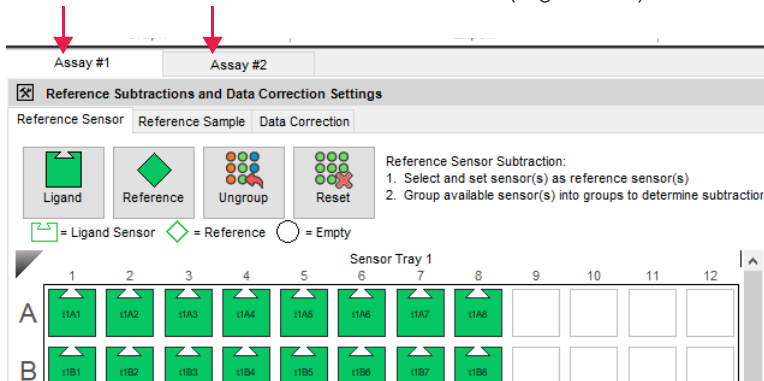
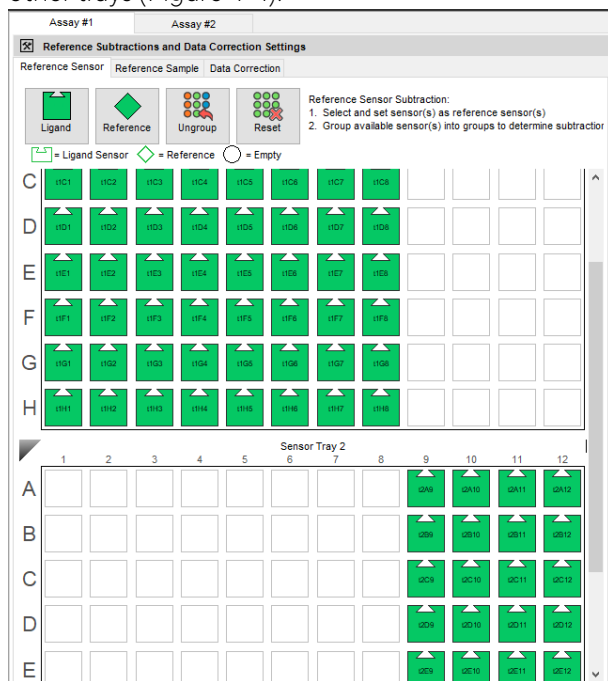

Figure 4-3: Assay Tabs
Figure 4-4: Scrolling Between Biosensor Trays
To view data for different assays in the experiment or combined data set, click the **Assay** tab above the Reference Subtractions and Data Corrections window (Figure 4-3).
If you used more than one tray of biosensors in the experiment or combined dataset, use the scrollbar to see the other trays (Figure 4-4).
- Biosensors are identified by their tray and well number. For example t1A3 is the biosensor in well A3 on tray 1, t2H5 is the biosensor in well H5 on tray 2 (Figure 4-3 and Figure 4-4).